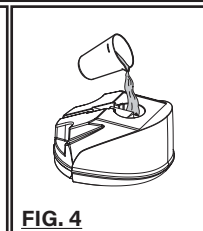

FIG. 4
Step 3 - Fill the water tank up to or below the MAX fill line with clean tap water. (Fig. 4)